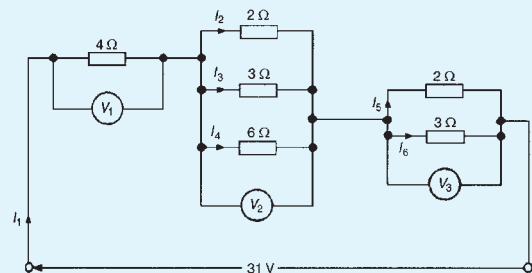

Figure 5.33
9. Determine the currents and voltages indicated in the circuit shown in Fig. 5.33